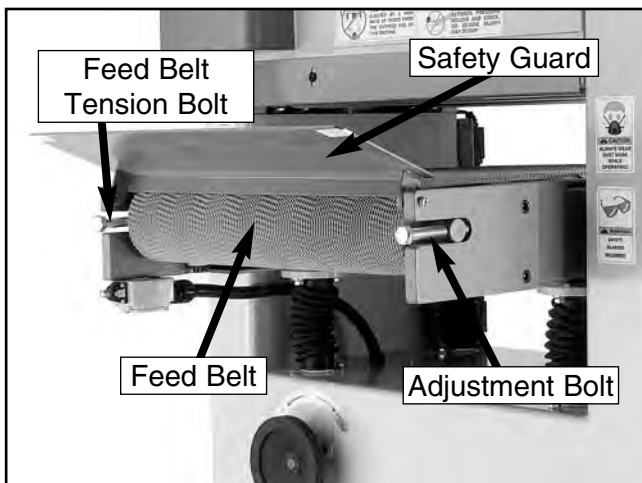

Figure 17. Feed belt tension adjustment controls.
2. Raise the safety guard (**Figure 17**) on the front end of the feed table.
3. Increase or decrease the feed belt tension by adjusting the bolts located on the left and right side of the front table roller (**Figure 17**).